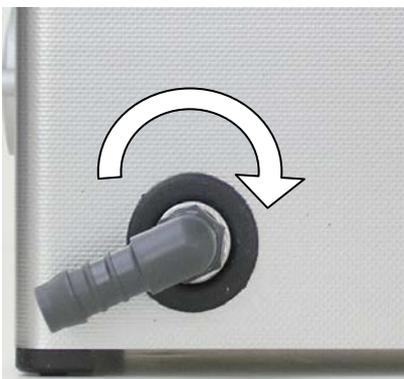

Fig. 5.2
3. Turn the tube socket into the required drain position (see fig. 5.2).